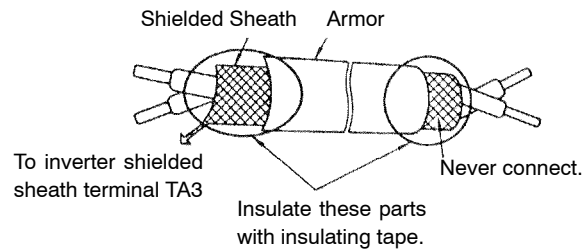

Fig. 5 Shielded wire termination
- Use a shielded wire to connect to the PG. Connect the wire as shown in Fig. 5 to prevent interference by noise. The wire must be 100m or shorter.